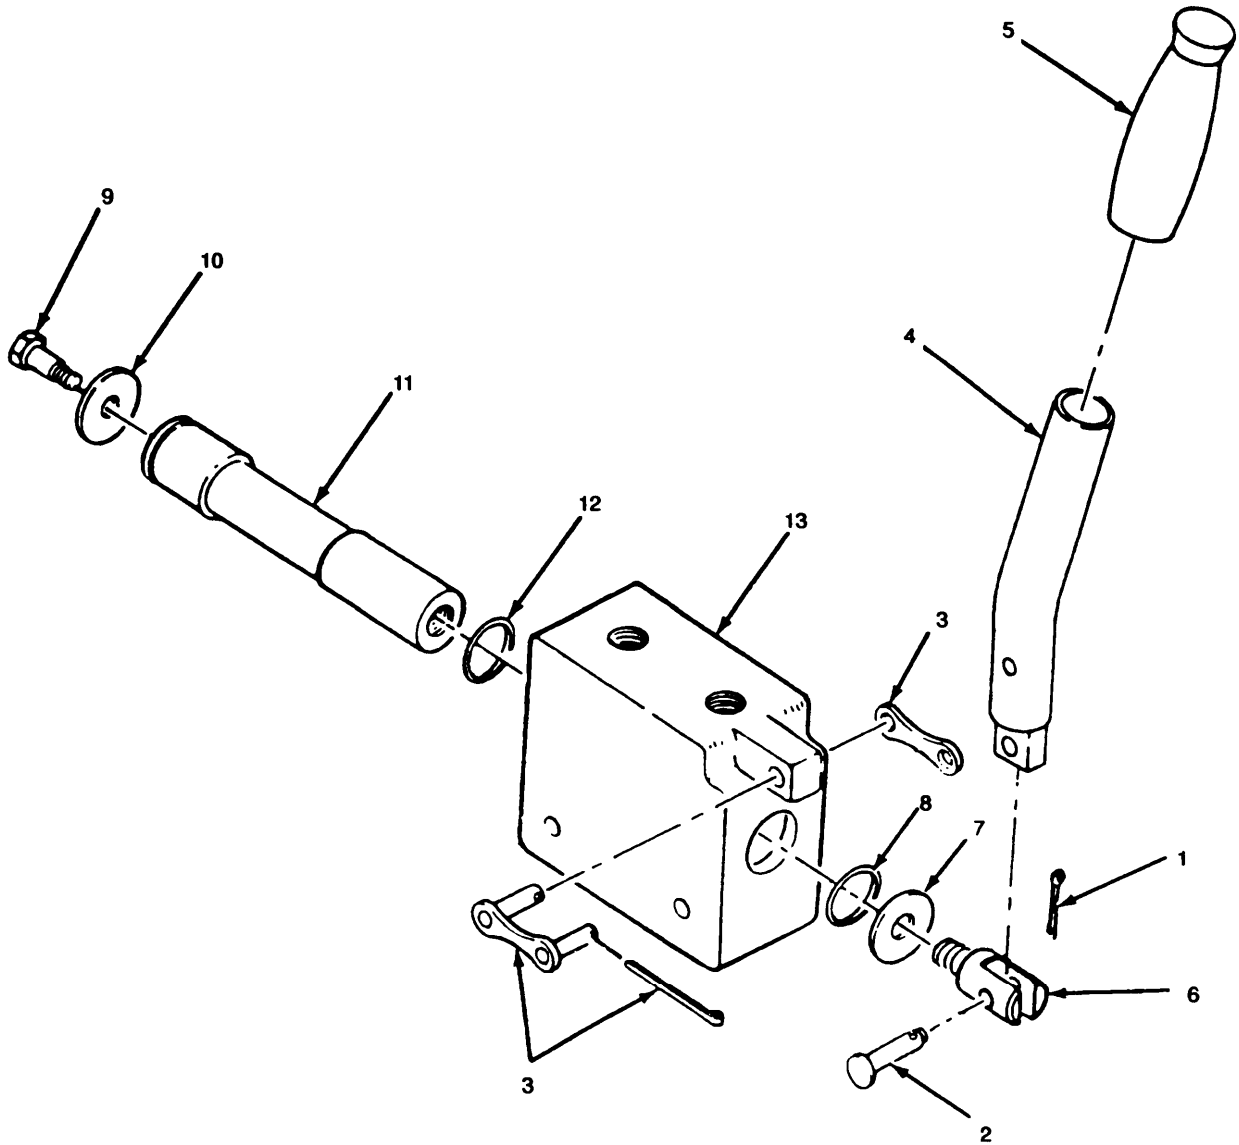

Figure 3-4. Selector Valve, Repair.
b. Repair (figure 3-4)
- (1) Remove cotter pin (1), pin (2), chain link (3), and control lever (4).
- (2) Remove grip (5) from control lever (4).
- (3) Remove spool clevis (6), washer (7), packing (8), screw (9), washer (10), float spool (11), and packing (12) from selector valve body (13).
- (4) Discard packings (8) and (12).